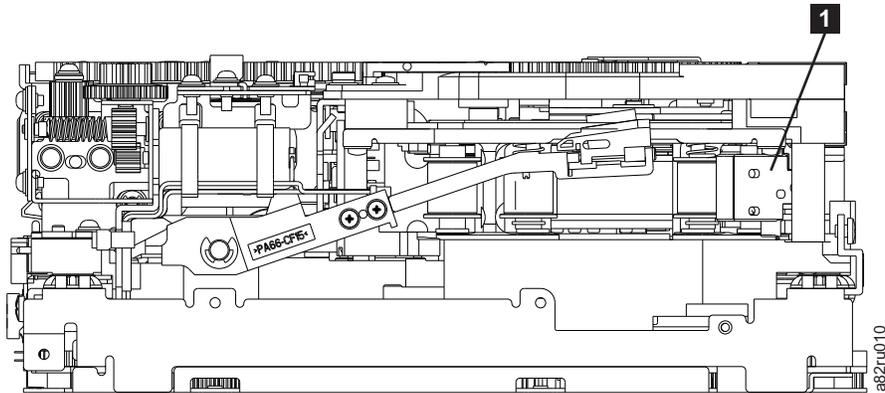

Figure A-17. Leader Block Assembly (LBA)
10. Rotate the threader motor worm gear (**4** in Figure A-16 on page A-17) to turn the threader mechanism gear (**6** in Figure A-16 on page A-17) counterclockwise. This moves the LBA out of the cartridge and past the read/write head. Stop this rotation when the LBA is near the tape guide roller nearest the rear of the drive shown as **1** Figure A-17.